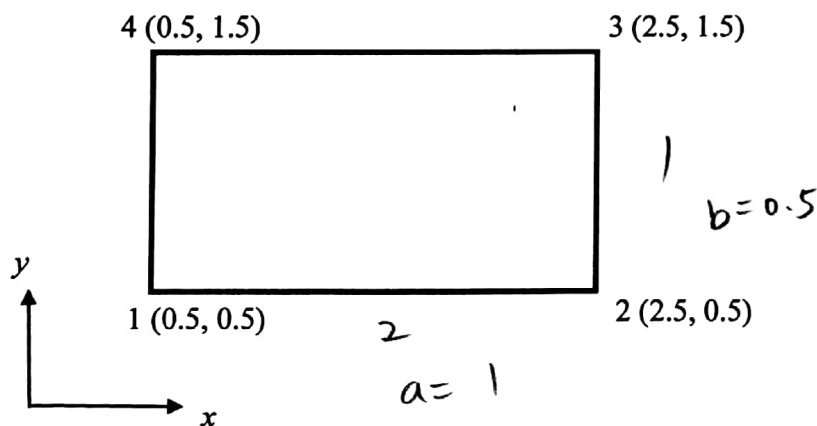

Figure 8 (unit in cm)
8. (15%) Consider a plane strain rectangular element as shown in Figure 8 (unit in cm). The nodal displacements are given below: